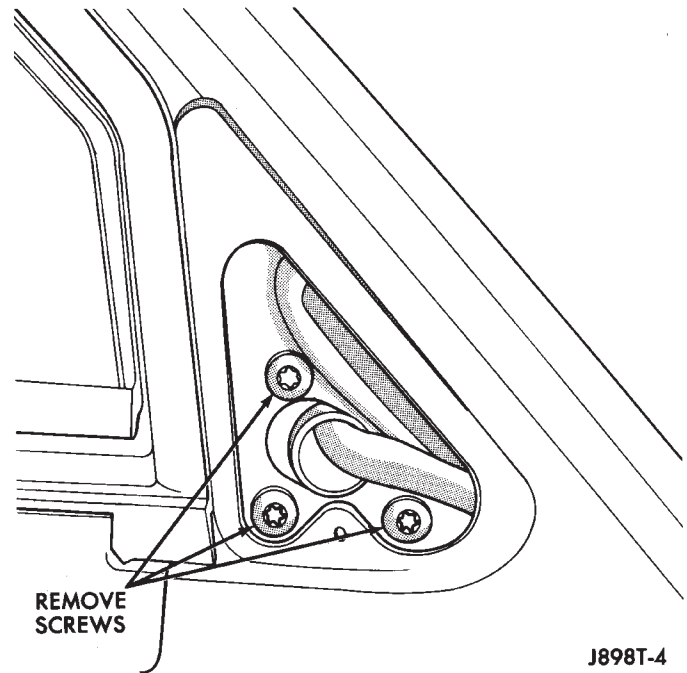

Fig. 6 Power Mirror Remove/Install
(9) Disconnect power mirror wire harness at connector in door.
(10) Pull harness up through door.
(11) Remove 3 screws holding mirror to door (Fig. 6).